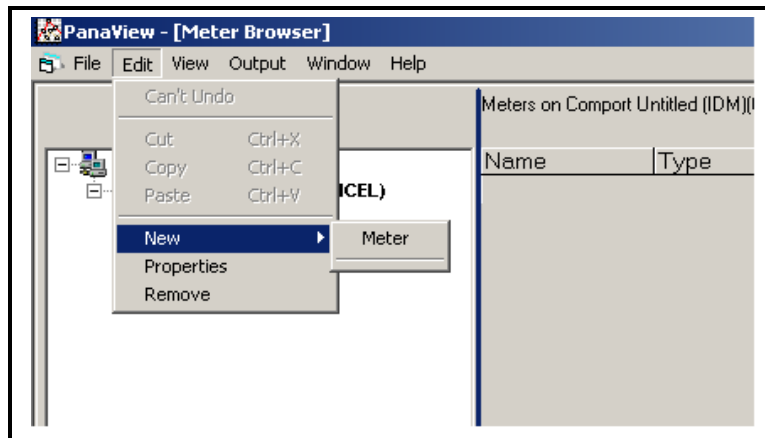

Figure 3: “New” Option in the “Edit” Menu
2. Click on the “*New*” option in the “*Edit*” menu (see Figure 3 below).